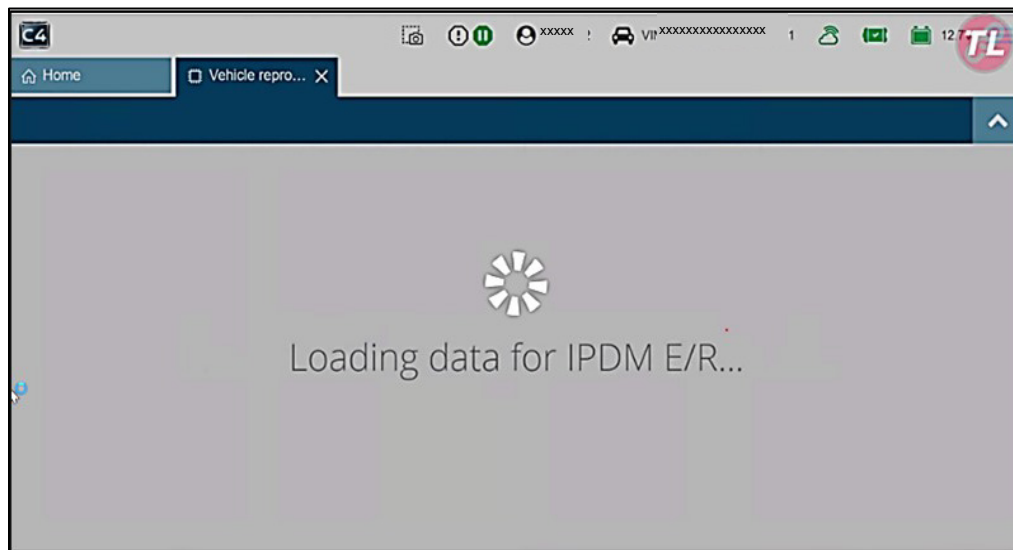

Figure 8
14. Allow C4 to check for reprograms (Figure 8).